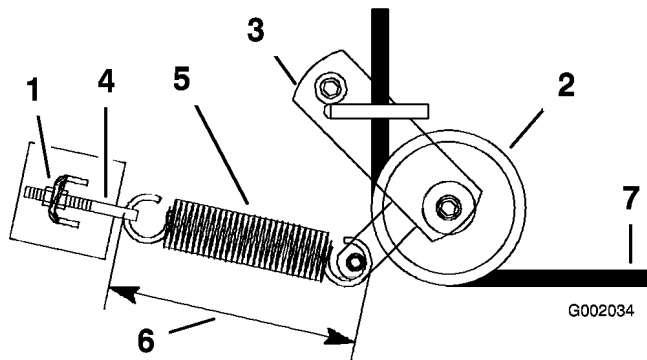

Figure 45
4. Loosen the outer nut on the spring eye bolt (Figure 45).
6. Remove the spring loaded idler pulley (Figure 45).
7. Route the new belt through the idler arm (Figure 45).
9. Tighten the outer nut on the spring eye bolt (Figure 45).
Note: Check the spring length. The spring should measure 9-3/8 + 1/8 inch (238 + 3 mm) when installed. Adjust it if it does not (Figure 45).